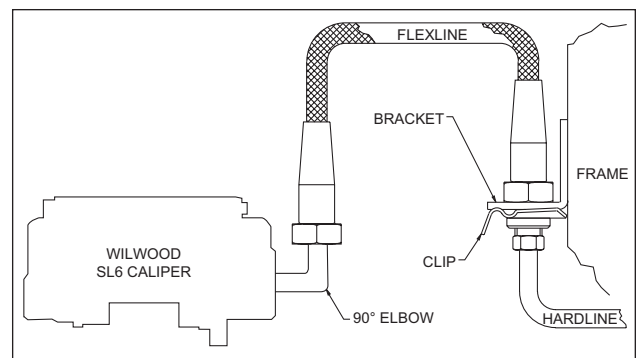

Figure 4. Brake Line Diagram
- Install Wilwood's optional stainless steel braided flexline hose kit, part number 220-8338 (**NOT included in kit**), see Figure 4. **NOTE:** The caliper inlet hole has a 1/8-27 NPT thread. A steel 90° elbow fitting should be installed in the caliper. **THE ORIGINAL EQUIPMENT PRODUCTION RUBBER BRAKE HOSES WILL NOT ADAPT TO WILWOOD CALIPERS AND ARE NOT RECOMMENDED.**